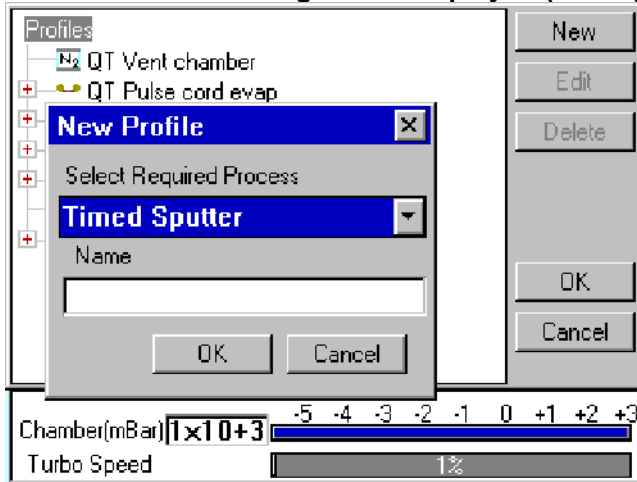

Figure 4-2. Creating a new profile
2. The **New Profile** dialog box is displayed (see Figure 4-2).